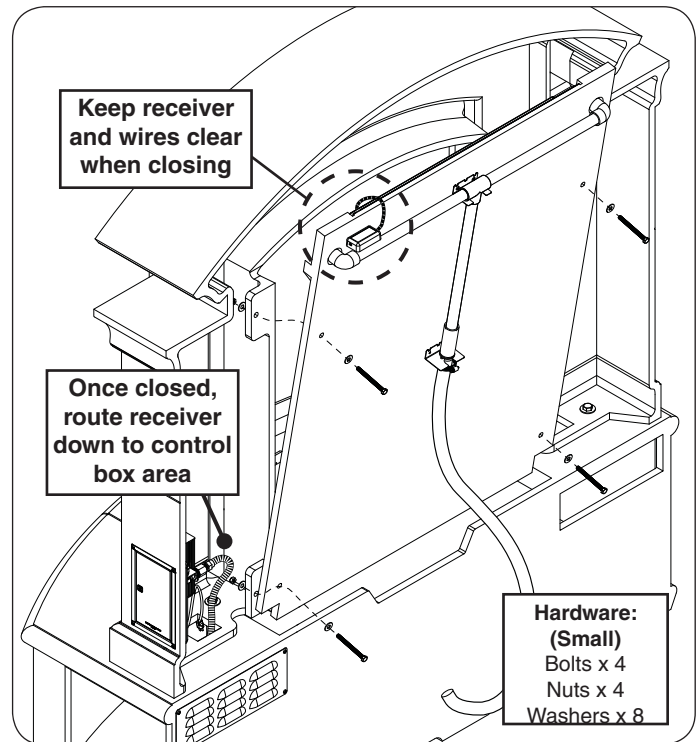

Fig. 22-2 Place inner rear-panel and fasten
2. Place the inner rear-panel by first resting its bottom on the hearth, then slowly lifting it upward into place (see Fig. 22-2).